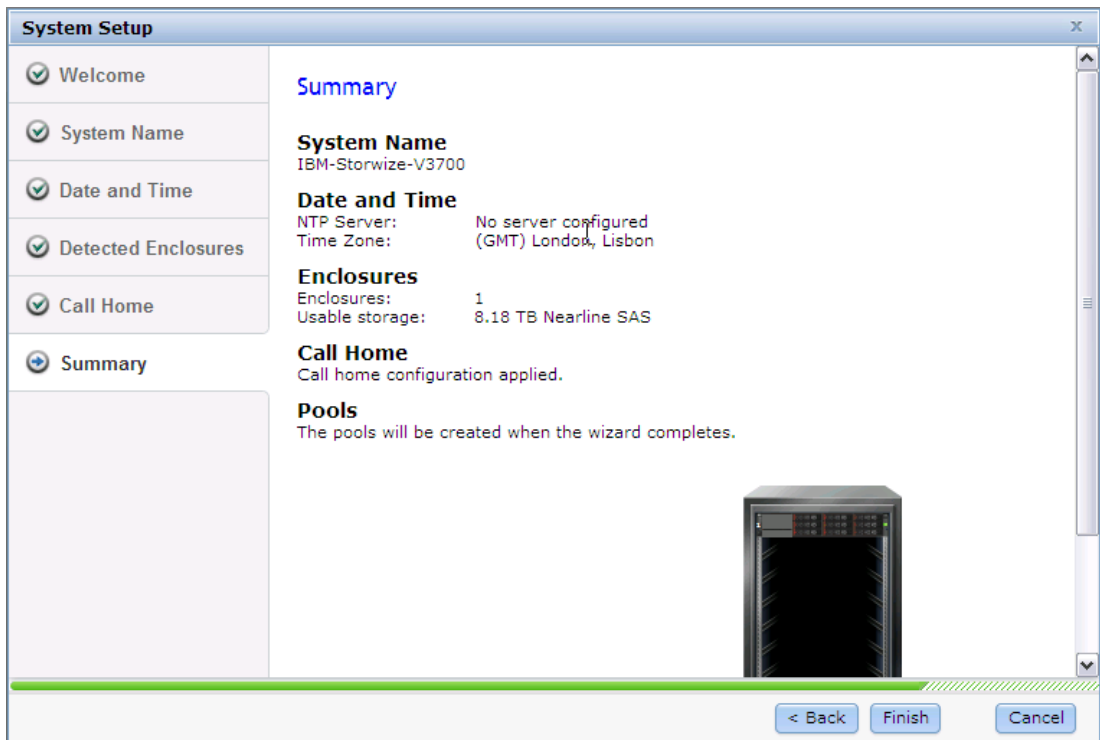

Figure 2-34 Summary
4. Once this is complete you will get the screen shown Figure 2-34.